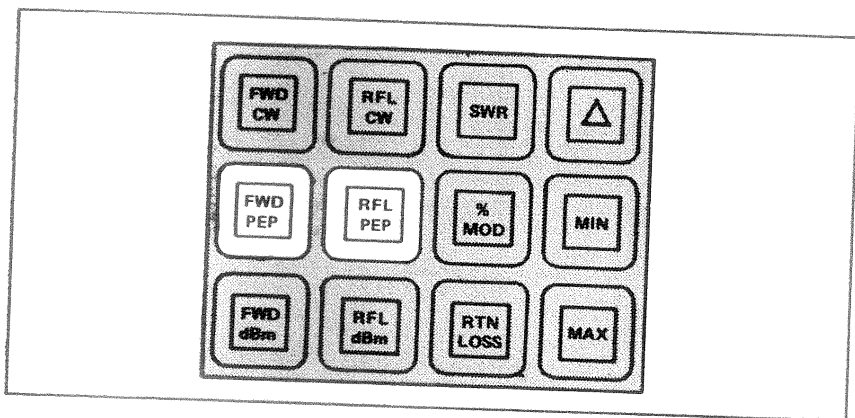

Figure 3-4. Peak Envelope Power (PEP).
d. **Measuring Peak Envelope Power.** (Figure 3-4). PEP power measurements are made in the same manner as the CW power readings described above, except that the **FWD PEP** and **RFL PEP** buttons are pressed and the readings are displayed directly as peak power.